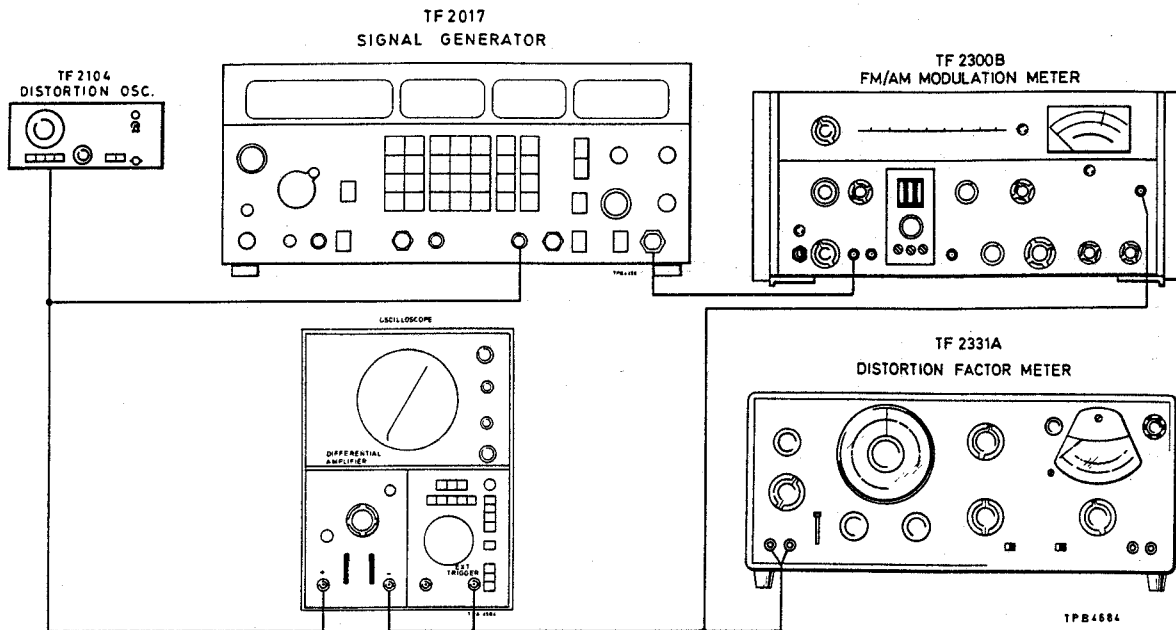

Fig. 14 Test gear arrangement for f.m. pre-distortion alignment (AS5)
(2) Connect a low distortion a.f. oscillator to the 2017 600  $\Omega$  IN socket, select a modulation frequency of 70 Hz and an approximate level of 750 mV. Set 2017 FINE TUNE potentiometer to mid-travel.
(3) Insert a differential amplifier into the oscilloscope main frame and connect the remaining test equipment as shown in Fig. 14 below.
(4) Initially switch off the external a.f. source and connect a multi-meter selected to a suitable d.c. volts range across TP2 and TP3. Check that this reads  $0.17 \text{ V} \pm 0.02 \text{ V}$ , if not adjust R1 for this figure.
(5) Connect the multimeter between TP6 and earth and adjust the variable d.c. source to give 0 V.
(6) Connect the multimeter between TP4 and earth, adjust R2 for +24 V  $\pm 0.2 \text{ V}$ , switch external modulation source on and set to a suitable level. Tune the TF 2300B to the carrier frequency and select f.m. deviation. Adjust the oscilloscope controls to observe the diagonal trace this could have a hockey stick effect if alignment is required. Adjust R7 to R11 in ascending order for the best straight line. If necessary increase the a.f. source level to enable more effective adjustment of R10, R11. Next adjust R6 to R2 in descending order for the best straight line presentation.